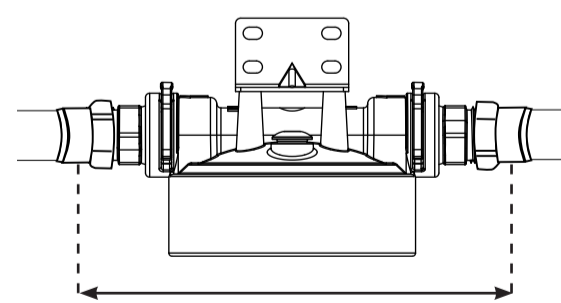

Figure 2
5. Calculate proper spacing of components (approximately 3/4" of existing pipe inserts into each fitting) (see Figure 2.)